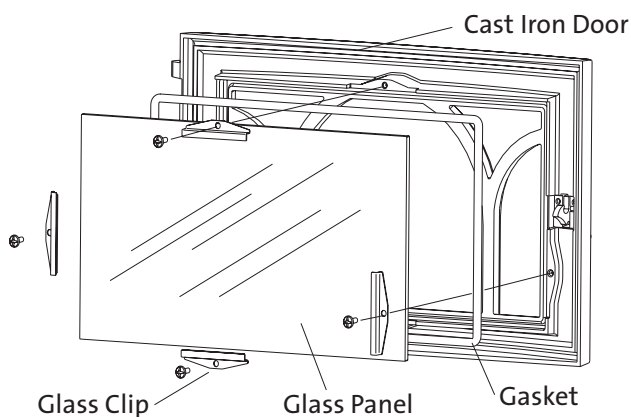
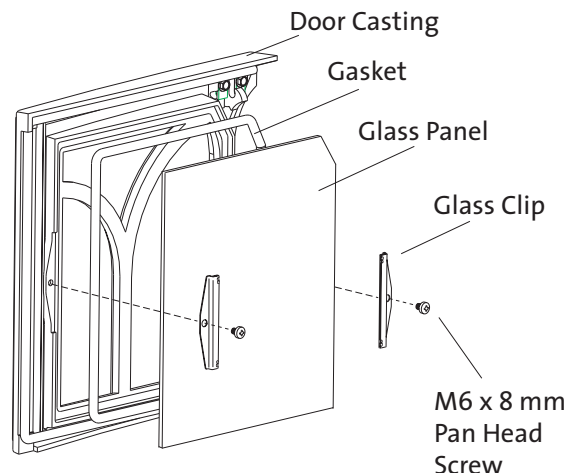

Figure 20a. Single Door Glass Assembly Parts.
Figure 20b. Double Door Glass Assembly Parts.
2. Carefully remove all of the glass clips from the inside of the door. See fig. 20a for Single Door / fig. 20b for Double Doors.